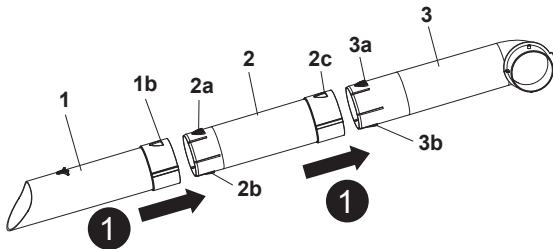

Fig. 2
1. Align the slot of the middle vacuum tube (2) with the sliding pin (3b) of the upper vacuum tube (3) and insert it all the way to the stop (Fig. 2, step 1). Ensure that the two latches (3a) engage in the location holes (2c).
2. Align the slot of the lower vacuum tube (1) with the sliding pin (2b) of the middle vacuum tube (2) and insert it all the way to the stop (Fig. 2, step 2). Ensure that the two latches (2a) engage in the location holes (1b).